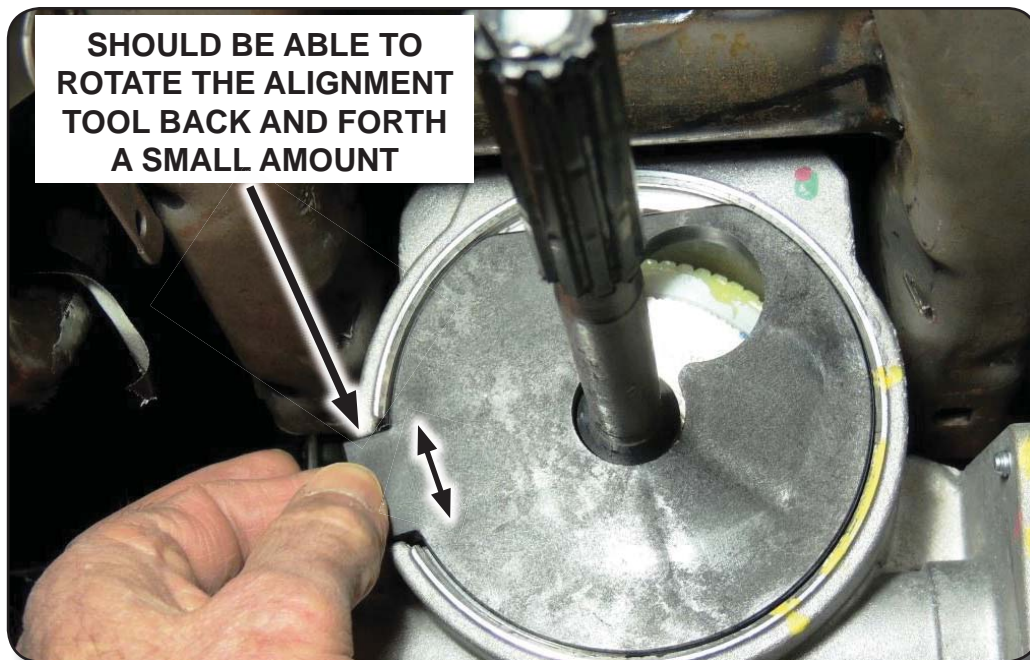

FIGURE 17
- If the alignment tool feels stiff, the steering shaft is not aligned. Have an assistant bump the tires slightly until the alignment tool can be moved back and forth slightly. See Figure 17.